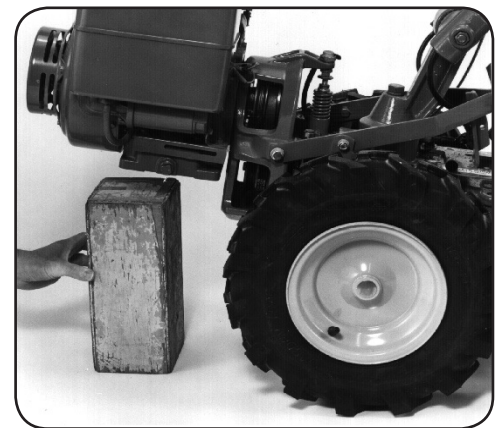

Figure 4-20
3. Place a sturdy support under the engine to prevent the engine from tipping forward when the tine attachment is removed. See Figure 4-20.